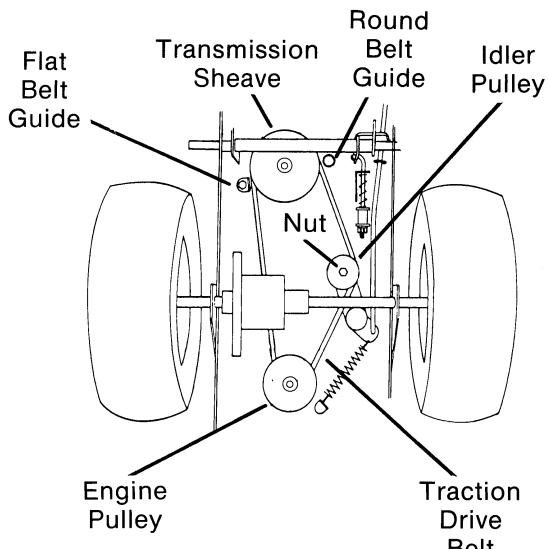

FIG. 20
F. Remove locknut that secures idler pulley to idler lever assembly and remove idler pulley. (Fig. 20)
G. Loosen locknut on capscrew holding flat belt guide and turn belt guide 90° clockwise. (Fig. 20)
H. Remove capscrew holding round belt guide to main frame. (Fig. 20)
I. Remove traction drive belt from transmission and engine sheave. (Fig. 20)